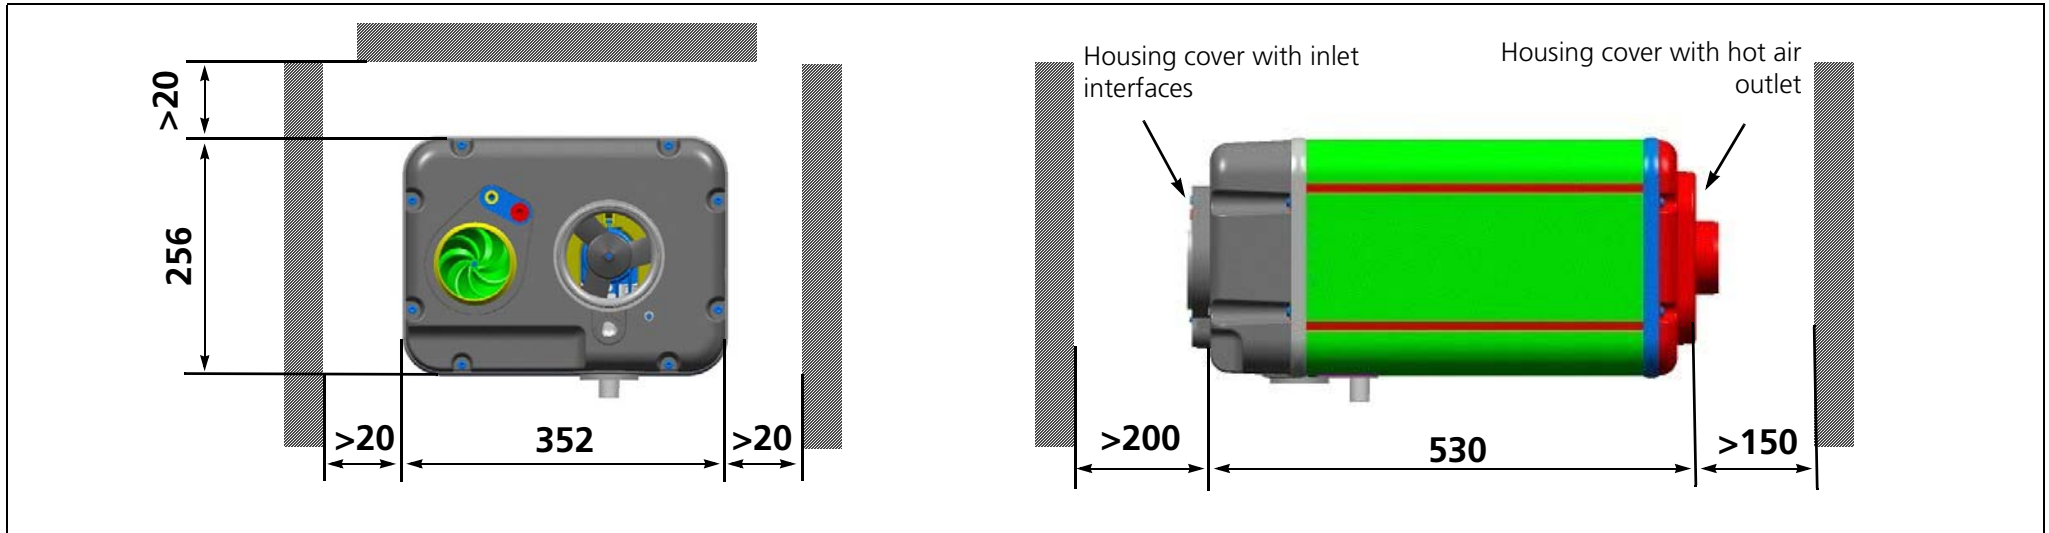

Fig. 3: Dimensions [mm] of the heater
- make sure to have sufficient space at all sides of the heater. See Fig. 3;
- The minimum distances to the heater from chapter 6.3, "Installation location" (Fig. 3) must be complied with.